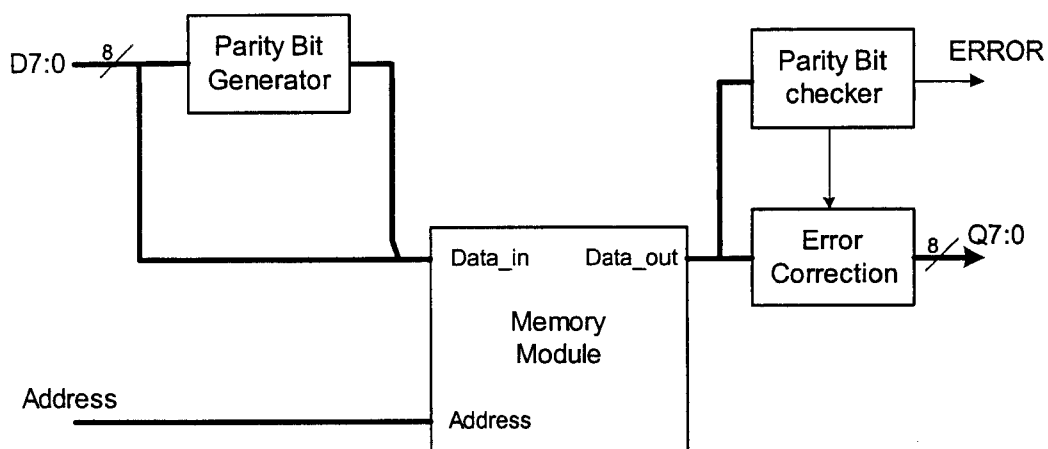

Figure 4.1
- c) Figure 4.1 shows an error-correcting memory module that can correct single bit error in the data  $D7:0$ . The signal  $ERROR$  at the output is high when an error is detected and low otherwise.